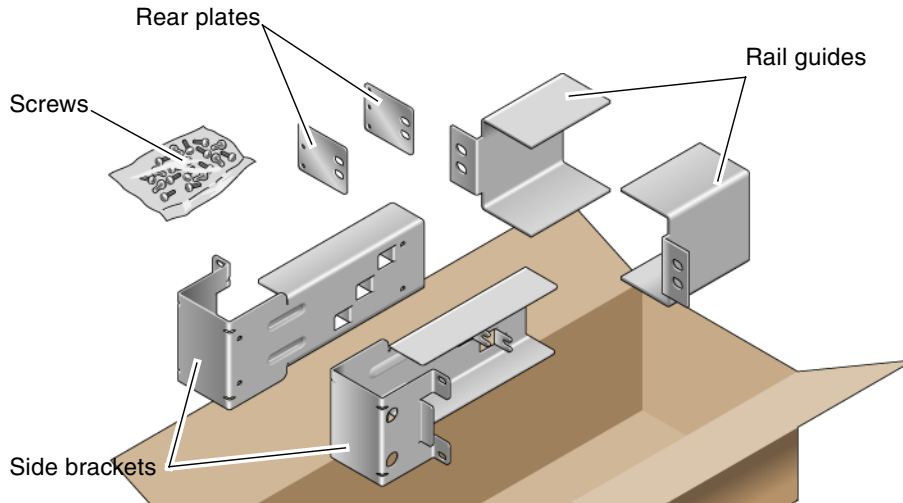

FIGURE 4-1 Contents of the Hardmount 23-Inch 2-Post Kit
1. Get the side brackets from the rack kit (FIGURE 4-1).
3. Get the rail guides from the rack kit (FIGURE 4-1).
7. (Optional) If your environment contains especially high vibrations, use the rear plates to further secure the server to the rack (FIGURE 4-1).